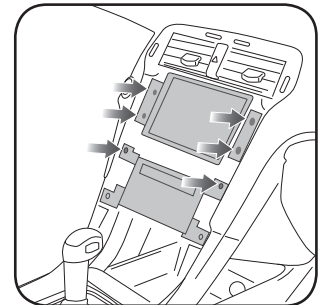

Fig. 1.6
6. Remove four (4) 7mm screws holding the OEM screen. Remove and unplug the screen. (Fig. 1.6)
7. Remove two (2) 7mm screws holding OEM the radio. Remove and unplug the radio. (Fig. 1.6)